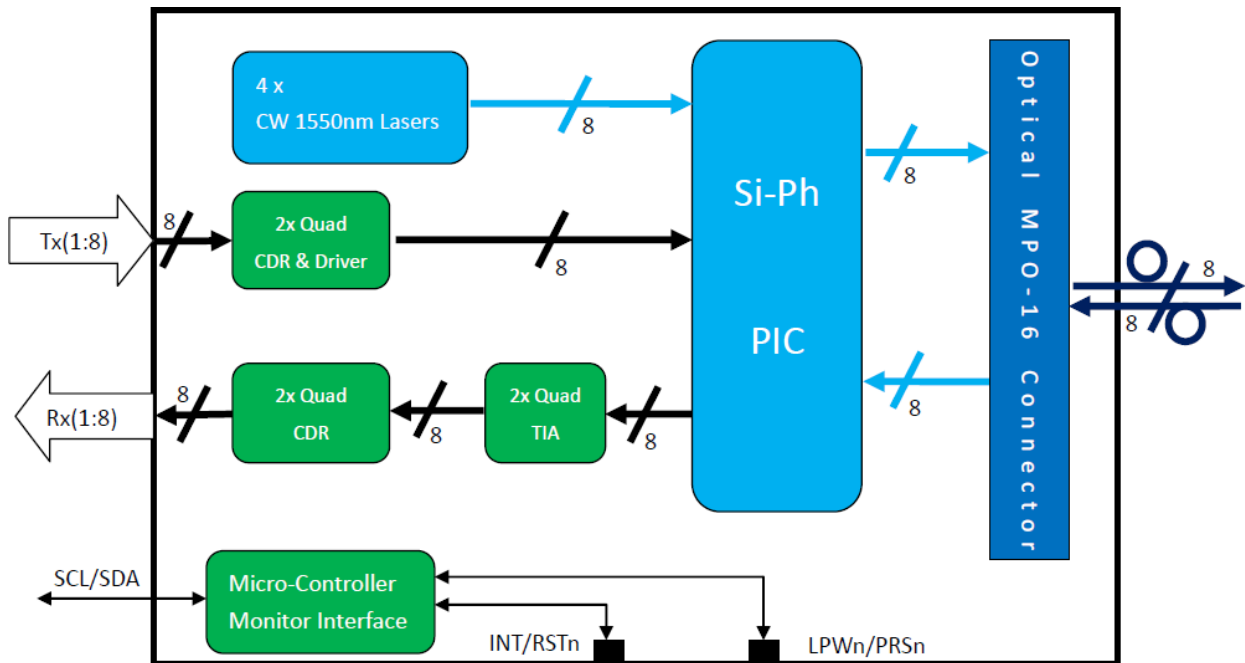

Figure 2. Transceiver Block Diagram
The module is silicon photonic basis. It incorporates 8 parallel channels, on 1550nm Center Wavelength, operating at 50G per channel. The transmitter uses a clock-and-data recovery (CDR) circuit, linear driver, and Silicon Mach-Zehnder modulator (MZM) with a 1550nm continuous wave (CW) laser as the optical source to generate a 26.5625Gbaud/s PAM4 optical signal. The receiver uses a Germanium (Ge) photodetector (PD), linear transimpedance amplifier (TIA), and CDR circuit to generate a 26.5625Gbaud/s PAM4 electrical signal to the host. The MZMs and PDs are integrated into a Silicon-based photonic integrated circuit (PIC). The electrical interface is compliant with IEEE 802.3bs and OSFP MSA in the transmitting and receiving directions, and the optical interface is compliant to OSFP MSA with MPO-16 Optical Connector. Figure 2 shows the functional block diagram of this product.